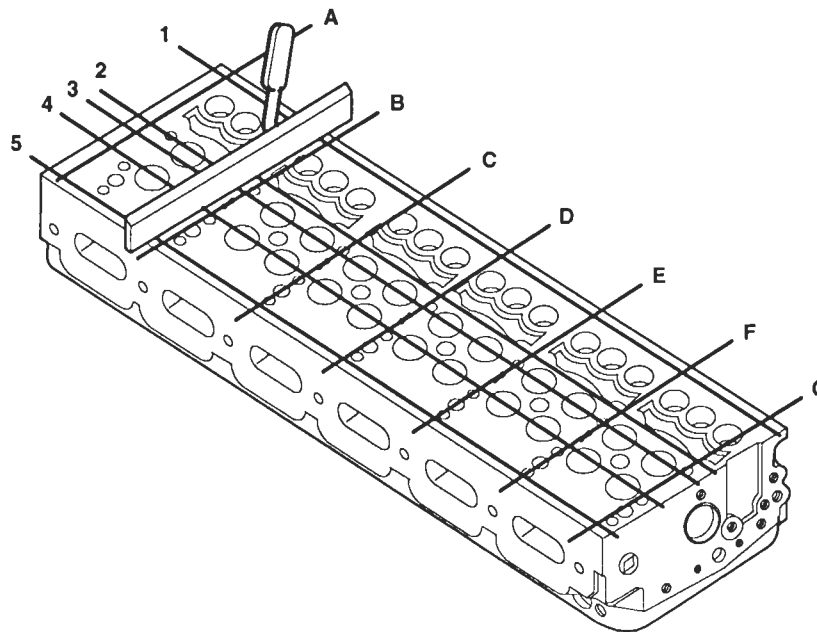

Figure 9. Checking Bottom Face of Cylinder Head
- a. Use a heavy, accurate straight-edge and feeler gages, tool J 3172, to check for transverse warpage at each end and between all cylinders. Also, check for longitudinal warpage in six places (Figure 9.) Refer to Table 1 for maximum allowable warpage.